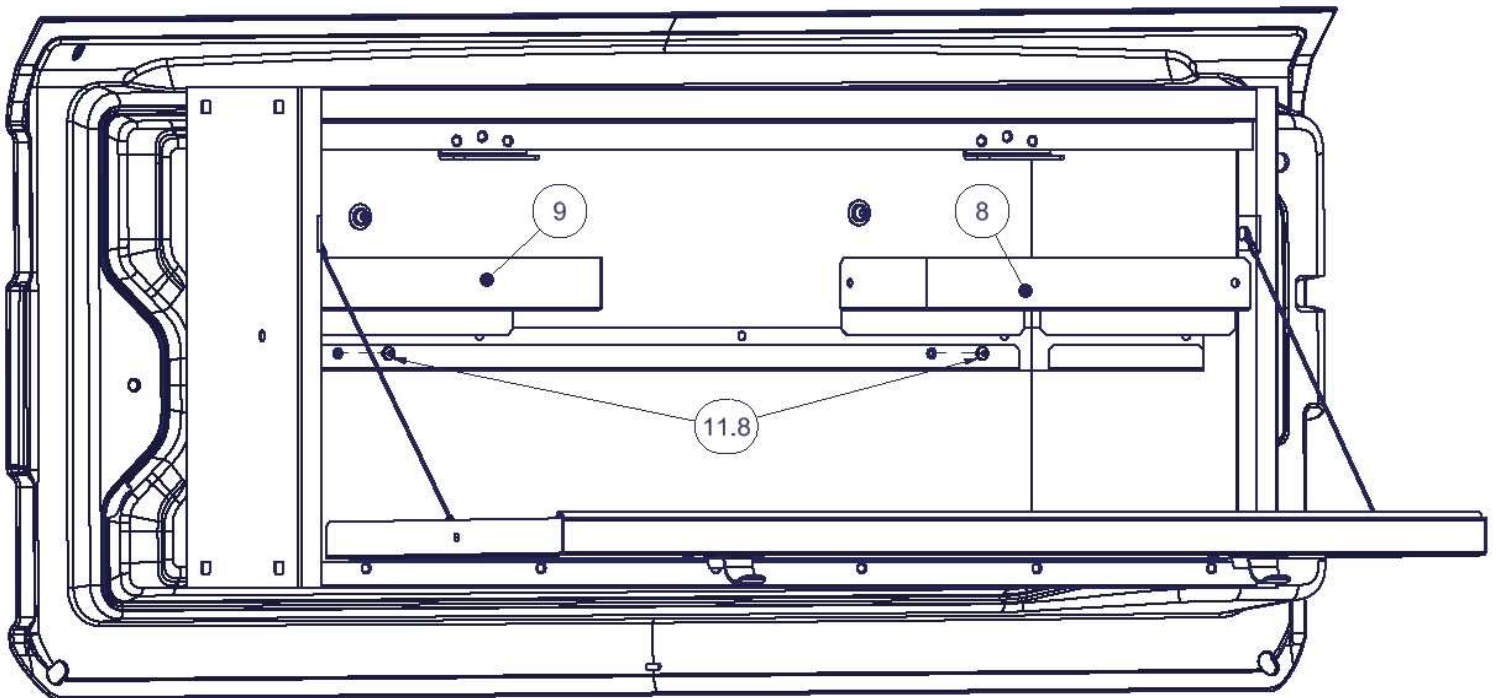

Figure 5
8. Install the removable shelves (#8 and #9) by placing the short flanges into the slotted rail that lines the back of the Lockbox. The (2) #11.8 Screws may then be installed and tightened to hold the trays in place during travel. See Figure 5. **CAUTION: Overtightening of the #11.8 Screws will spread the slot and make it ineffective for holding the shelves in future installations.** **NOTE: To remove shelf/shelves loosen the #11.8 Screw and lift shelf out of slot.**